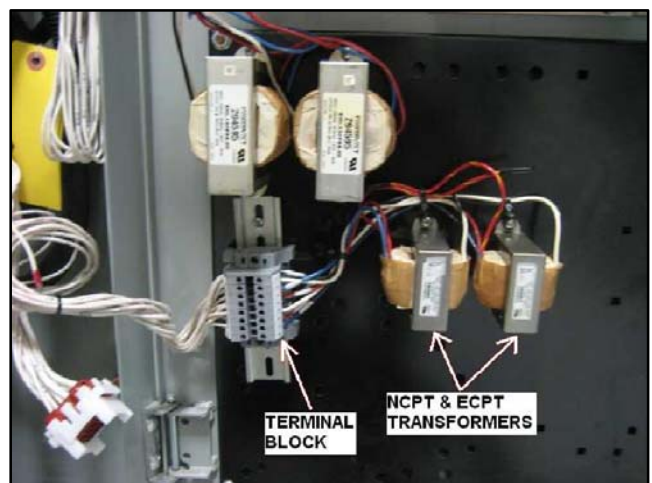
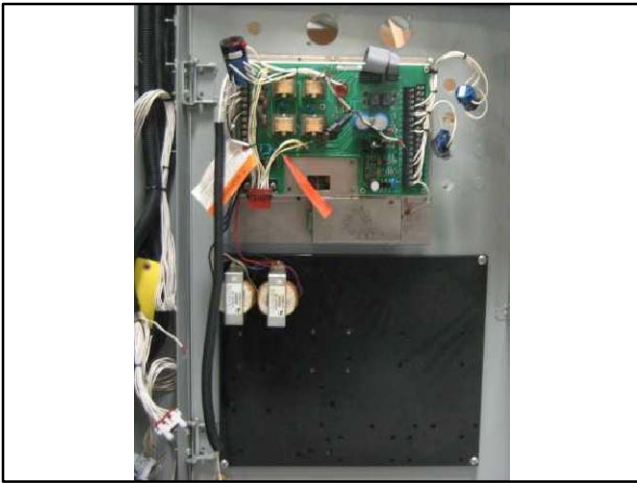

Figure 17 Transformers and Terminal Block on Lower Panel (do not disconnect electrical connections)
Figure 18 Transformers and Terminal Block Removed from Lower Panel but Not Disconnected
14. Without disconnecting the leads, remove the mounting screws that secure transformers NCPT and ECPT and the terminal block to the lower panel. See Figure 17 and Figure 18.